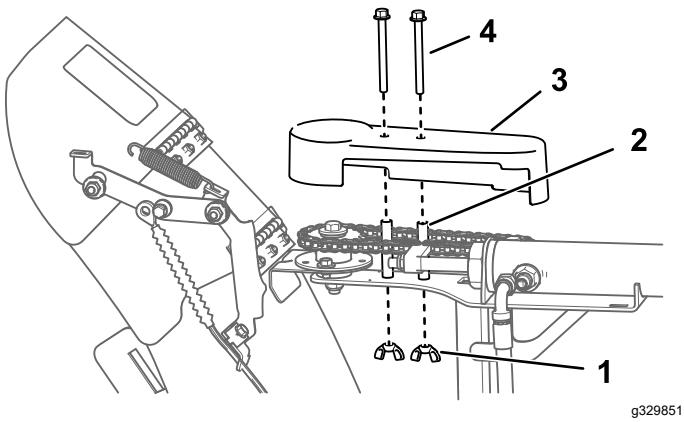

Figure 35
- 7. Install the cover as shown in Figure 35.